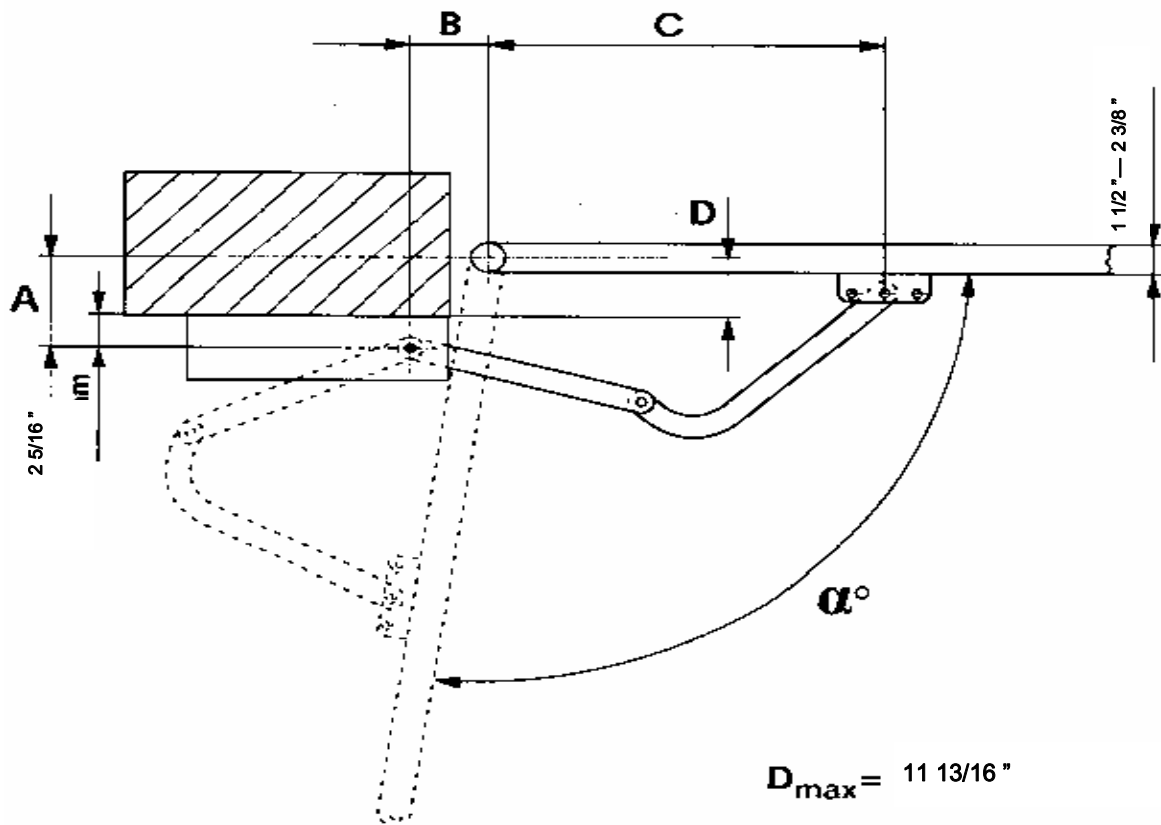

Figure 5. Dimensions for Inward Opening
Install the operator by using the following tables. See figures 5 & 6.
- \* With the operator released, established the position of the front mounting bracket to the gate by checking dimensions C in figure 5 & 6. The bracket can be welded or bolted to the gate leaf. See figure 10